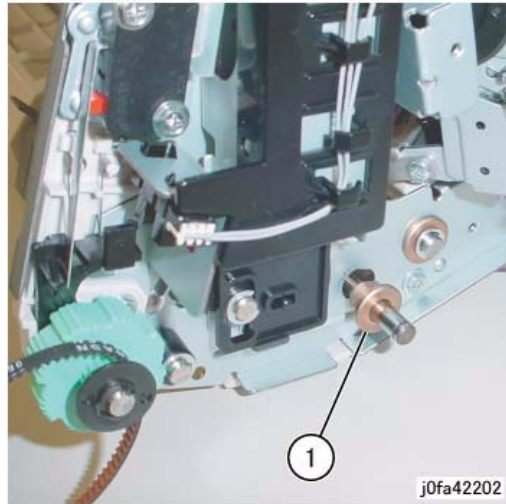

Figure 2 Removing the Bearing (j0fa42202)
4. Remove the front Bearing. (Figure 2)